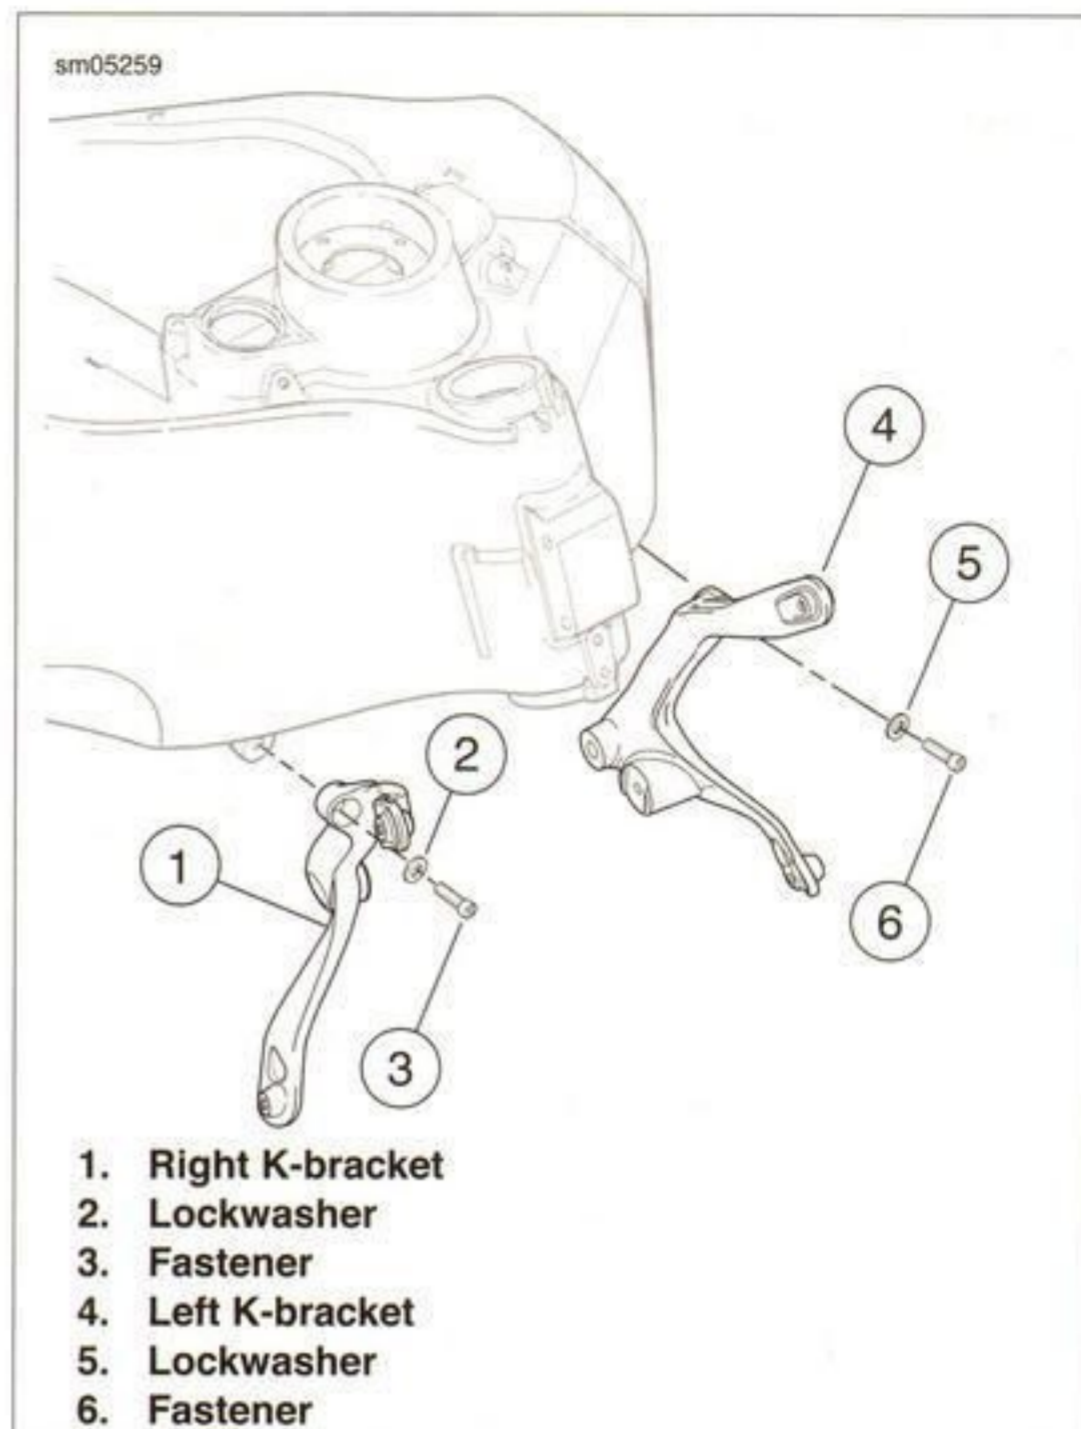

Figure 3-16. K-Brackets
8. See Figure 3-16. To allow access to fasteners (3, 6), remove fasteners securing radiator outlet ducts to K-brackets (1, 4).
2. See Figure 3-16. Remove fastener (3) and lockwasher (2) from right K-bracket (1). Remove fastener (6) and lockwasher (5) from left K-bracket (4).
5. See Figure 3-16. Install fastener (3) and lockwasher (2) into right K-bracket (1). Install fastener (6) and lockwasher (5) into left K-bracket (4). Do not tighten at this time.